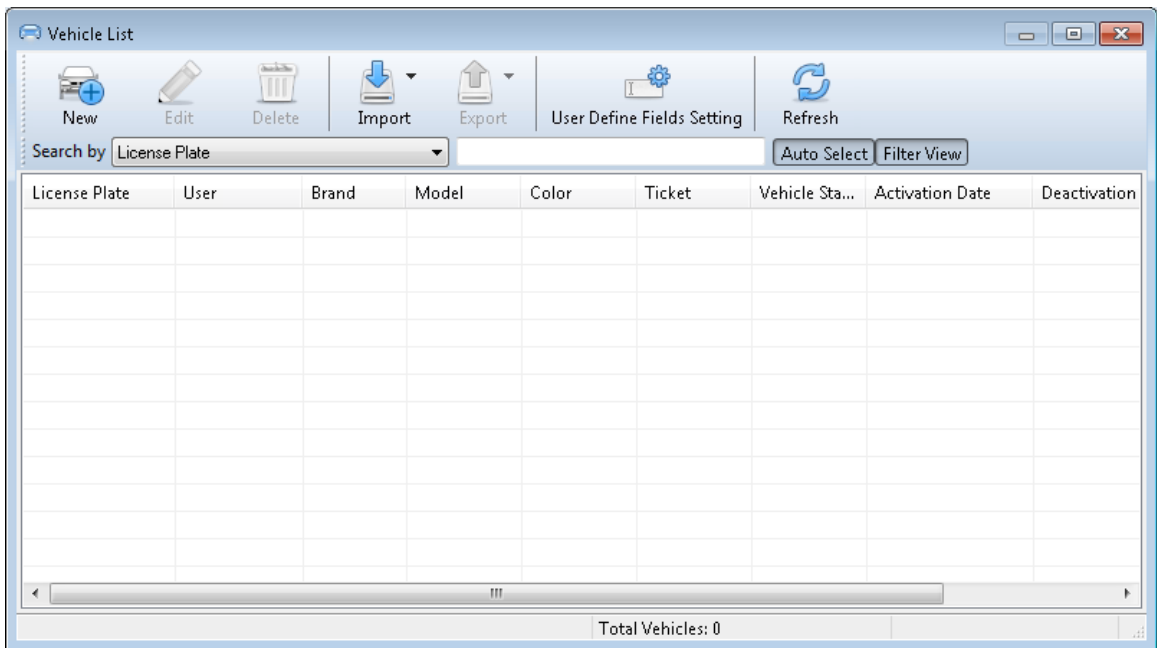

Figure 13-22
- When an unregistered vehicle is detected, the message *Plate Recognized: Unregistered Vehicle* or *Plate Not Recognized* is displayed. Right-click the message and select **New / Edit Vehicle**. The Adding a New Vehicle dialog box appears (Figure 13-22). Then follow Step 3 to complete other settings.